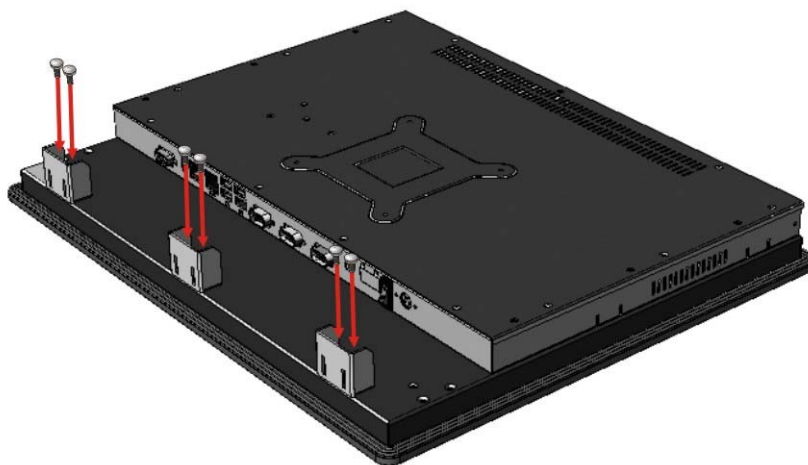

Figure 3-36: PPC-F19B-BTi Mounting Bracket Installation
Step 1: Install three mounting brackets onto the rear panel as shown in **Figure 3-36**.